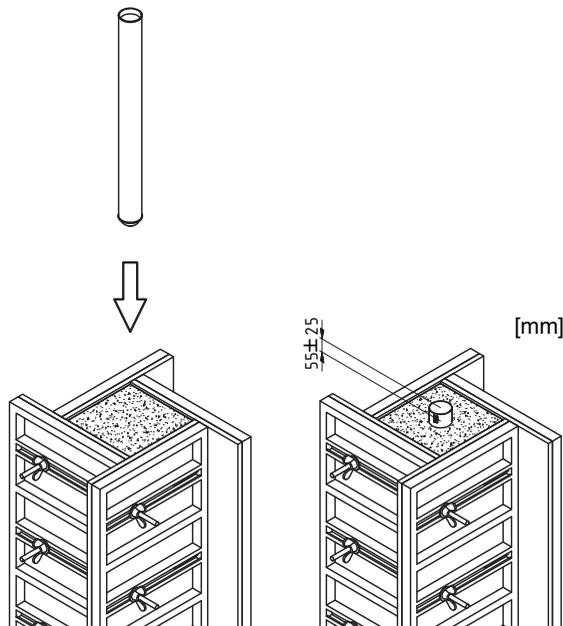

Figure 15. *Placing the Cast-in Sleeve body into the concrete column.*
1. After pouring concrete into the column mold, place a Cast-In Sleeve in the upper side of the column while the concrete is still wet. The Sleeve has to be protruding 30-80 mm above the top surface of the column. See Figure 15. The Sleeve will be used as housing for the SkyReach Anchor.